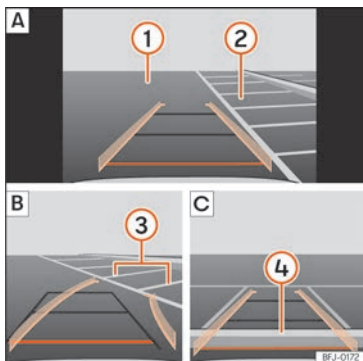

Fig. 204 Display on the Infotainment system screen.: parking with reverse assist.
Key to the **Fig. 204**:
- Place the vehicle in front of the parking space »» **Fig. 204** **two** **A**.